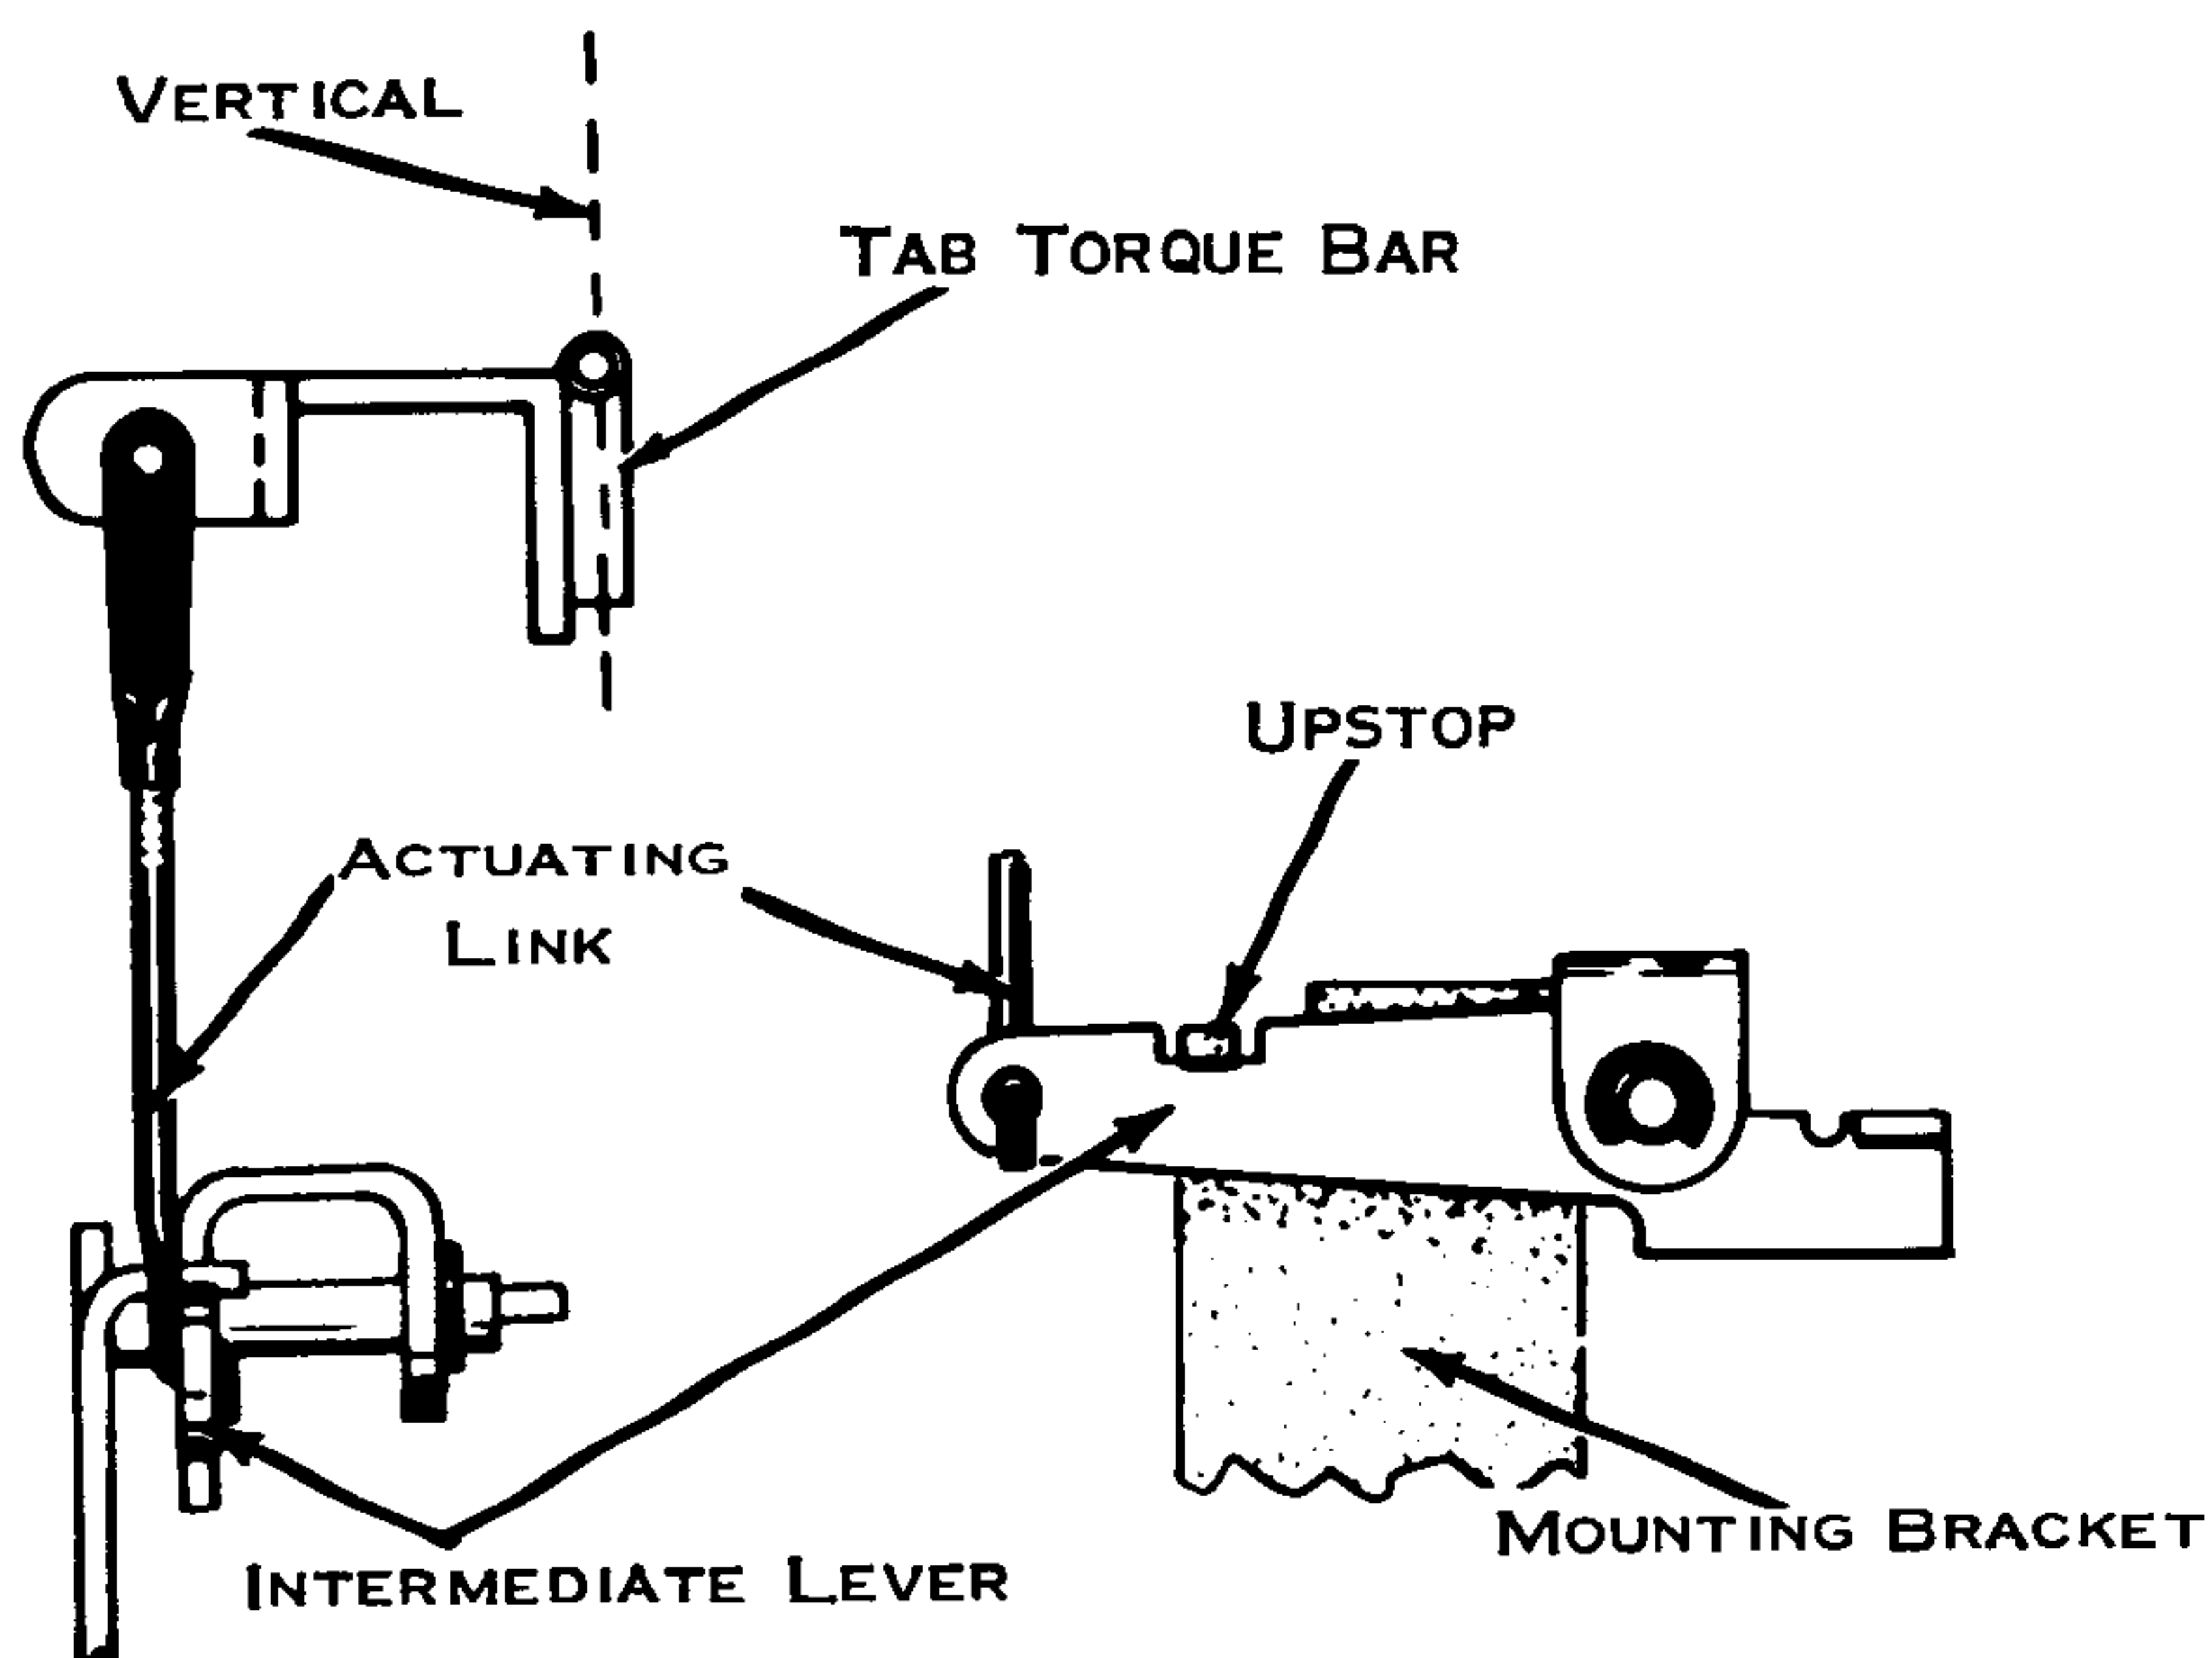

Figure 169. Actuating Link, 15" Machine
6. Actuating Link, 15" Machine (Fig. 169) - With the backspace cam latched and the intermediate lever resting against its upstop, adjust the actuating link clevis so that the tab torque bar hangs vertically.